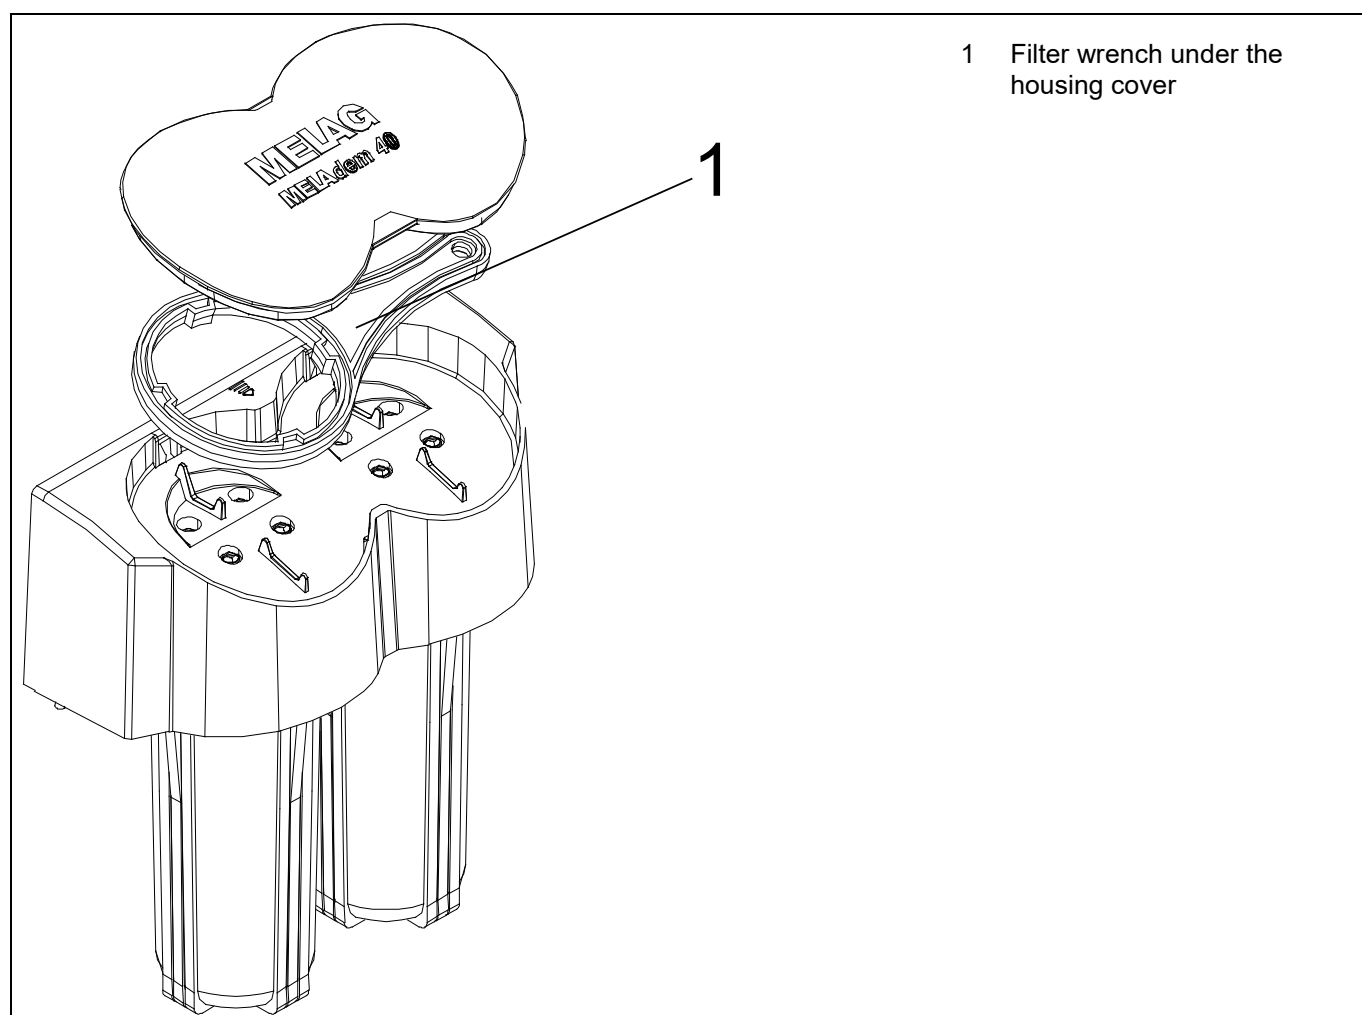

Figure 11: Removing the filter wrench
In the building where the MELAdem 40 is installed, there must be a stop valve with a return-flow inhibitor (non-return valve) and with a 3/4" outside-thread connection, in the vicinity of the installation point. In order to support you to conform to the official stipulations in your installation of your MELAdem 40, regardless of the facilities in your building, we recommend one of the two models described below in Figure 11.
Make the connection of the free end of the hose to the water input, or to the consumer (depending on the installation variation selected: see Fig. 11). Use a metal fast-screw connection for this purpose. The first step here is to shove the metal union nuts onto the ends of the hoses, then push the hoses until they will go no farther onto the socket of each of the metal fast-screw connection. Then tighten the metal union nuts finger-tight, and then screw them about ¼ turn more with an open-end (engineer's) wrench.
- Remove the wrench from the MELAdem 40 (see *Figure 11*).